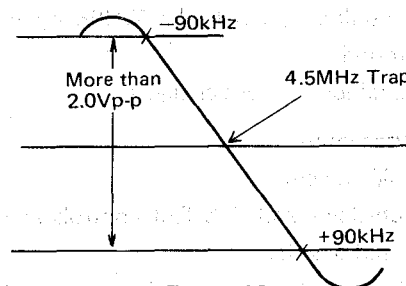

Figure 16
1. Set sweep generator output level to 3mVr.m.s. and adjust T201 to achieve waveform as shown in figure 16.